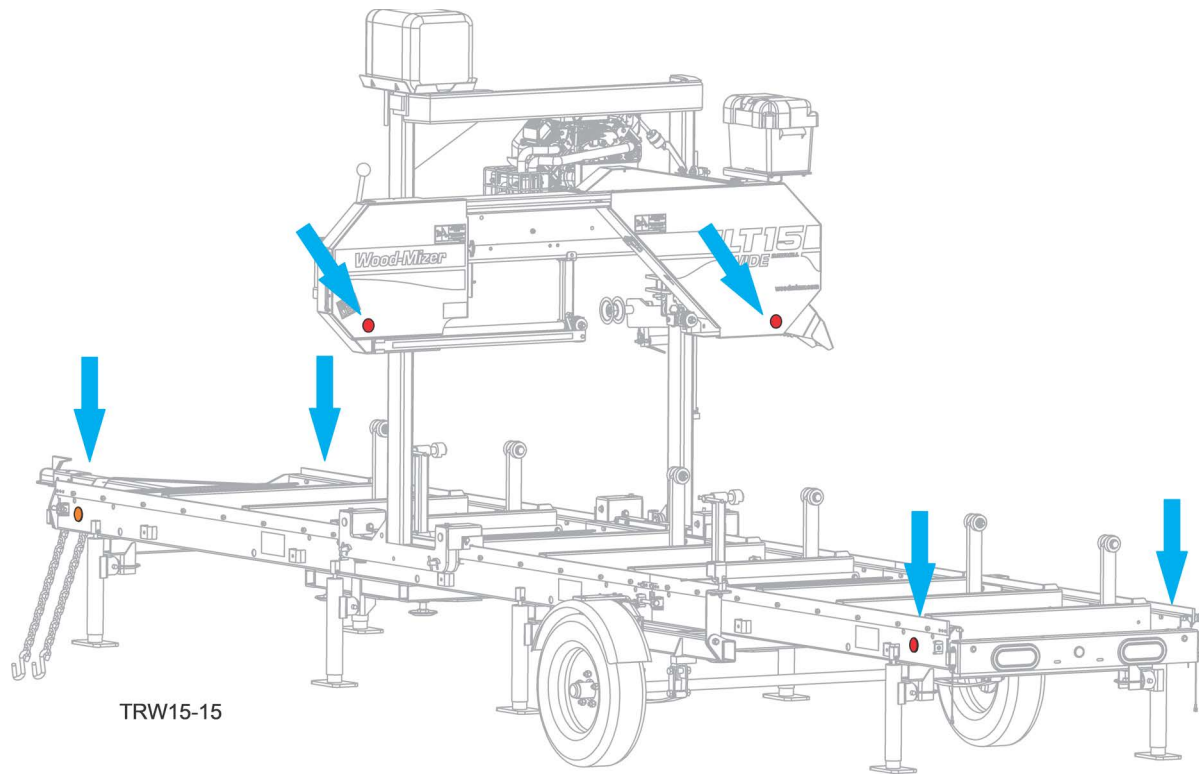

FIG. 2-15
4. Install the two provided red reflectors on each side of the saw head. See Fig. 2-15.
5. Install the two provided amber (hitch end) and red reflectors (tail end) on each side of the sawmill bed. See Fig. 2-15.